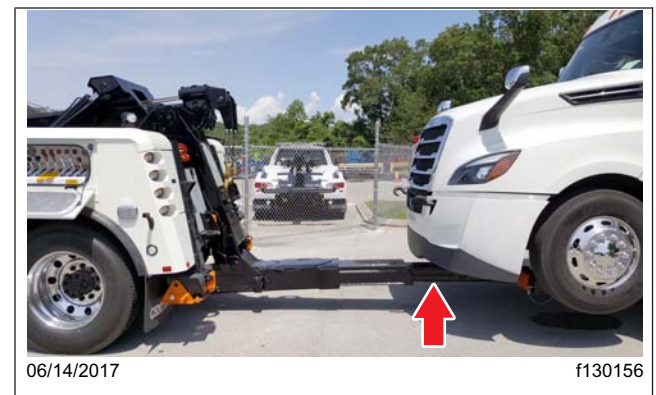

Fig. 23.13, Retracting the Recovery Boom
12. Remove the tow cables from the tow hooks and retract the recovery boom. See Fig. 23.13.